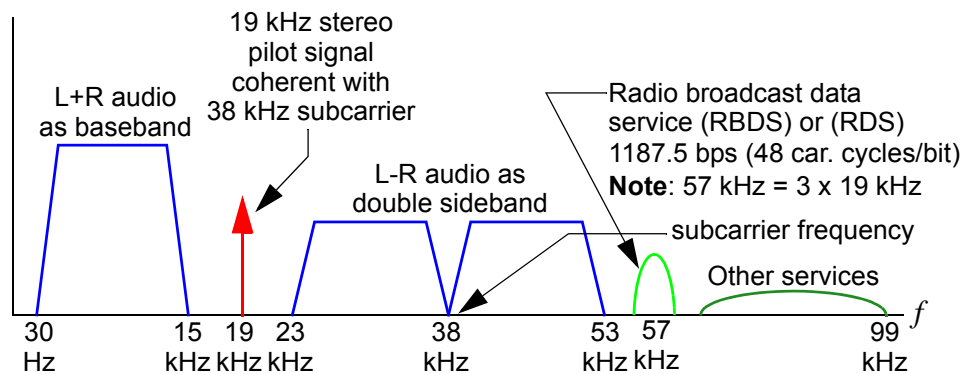

Figure 17: The broadcast FM transmit spectrum prior to the frequency modulator.
- (e) Send $y_{N1}[n]$ through the discriminator function to produce $z_{\text{dis}}[n]$. Plot the spectrum of this signal and compare it with the idealized spectrum shown in Figure 17. On your plot identify the spectrum features you see from Figure 17. If the station you picked does not have radio broadcast data service (RDS) on a subcarrier of 57 kHz, choose another station that does. Note: KCME does not have RDS!